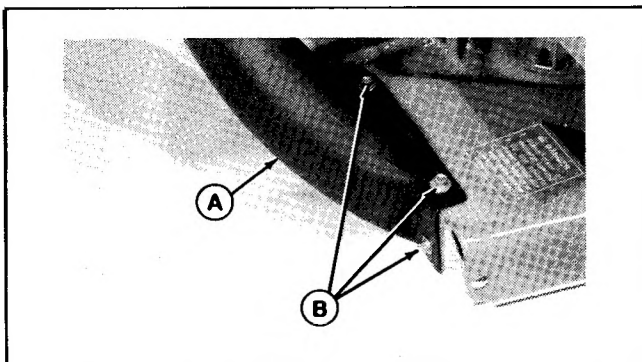

Figure 17.
- Place the adaptor (A, figure 17) onto the three carriage bolts (B) and install 3/8" plain washers, 3/8" lockwasher and 3/8" nuts.